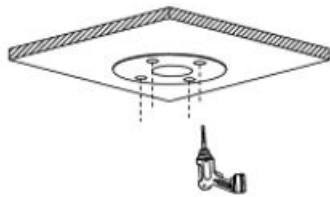

Figure 2-1
**Step 1** Take the device position map and place it on the mounting surface. Drill holes using the position map as a guide. Be sure to set the angle accordingly to the cable exit. If using installation surface as cable exit, drill the exit hole accordingly. See Figure 2-1.